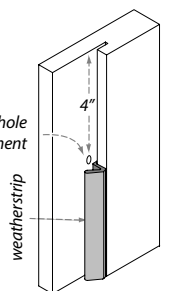
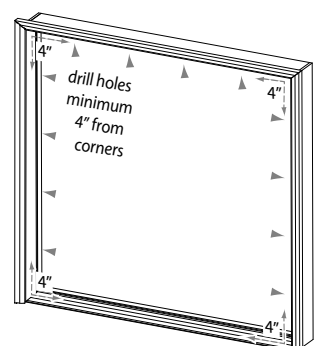

Figure 5
Figure 6
3. Remove weatherstrip from jambs, both sides and head (figure 5).
4. Drill 4 -3/32" holes in each side jamb under weatherstrip as shown in figure 5. Holes should be a minimum of 4" from corners (figure 6). 4 shipping holes in head jamb can be used for installation (weatherstrip has been shipped loose).